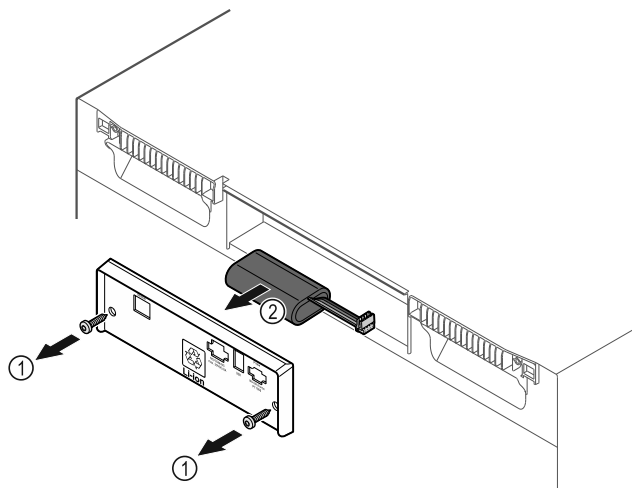

Fig. 198
- ▶ Unscrew screws and remove cover from the back of the appliance Fig. 198 (1).
- ▶ Disconnect and remove battery Fig. 198 (2).